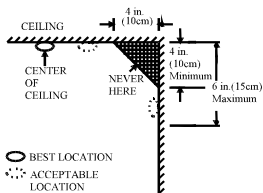

Figure 4: Recommended best and acceptable locations to mount smoke and heat detectors
- ◆ Install smoke and heat detectors as close to the center of the ceiling as possible. If this is not practical, put the detector on the ceiling, no closer than 4 inches (10 cm) from any wall or corner, as shown in Figure 4.
- ◆ If ceiling mounting is not possible and wall mounting is permitted by your local and state codes, put wall-mounted detectors between 4 and 6 inches (10 ~ 15 cm) from the ceiling, also see Figure 4.